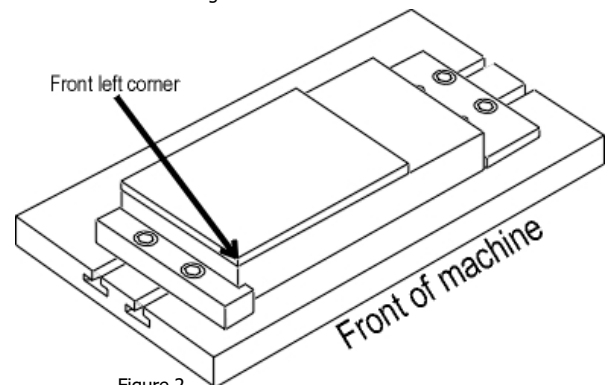

Figure 2
5. Move the cutting tool to touch the front left corner of the stock as shown in Figure 2. The cutter should be lightly touching the surface of the stock. Use the following keys to move the axes: